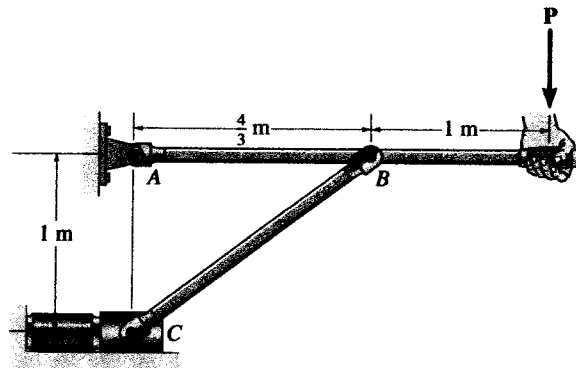

Figure Q3 (a)
- Q3** (a) **Figure Q3 (a)** shows a handle used to crush cans. Determine the maximum force P that can be applied to the handle so that the rod BC does not buckle. The rod is made of steel and has a diameter of 10 mm. It is pin connected at its ends. Given, $E_{st} = 210 \text{ GPa}$, $\sigma_y = 250 \text{ MPa}$.